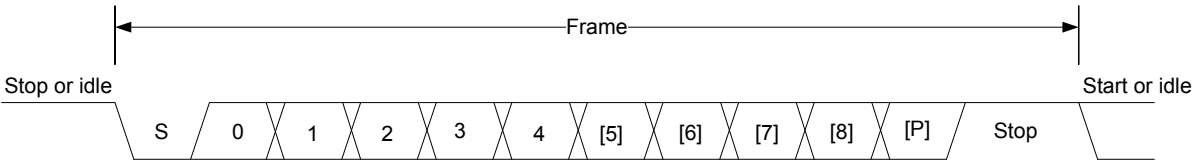

Figure 21.2. Frame Format
The frame format used in asynchronous mode consists of a set of data bits in addition to bits for synchronization and optionally a parity bit for error checking. A frame starts with one start-bit (S), where the line is driven low for one bit-period. This signals the start of a frame, and is used for synchronization. Following the start bit are 7 to 9 data bits and an optional parity bit. Finally, a number of stop-bits, where the line is driven high that indicates the end of the frame. An example frame is shown in Figure 21.2 Frame Format on page 631.